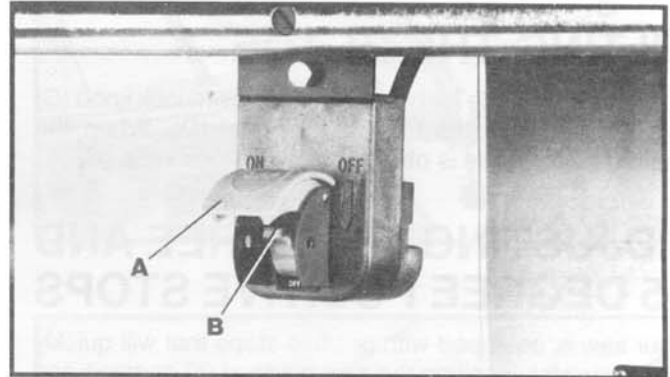

Fig. 40
1. The on/off switch is located underneath the switch shield (A) Fig. 40. To turn the saw "ON," move switch trigger (B) to the up position.